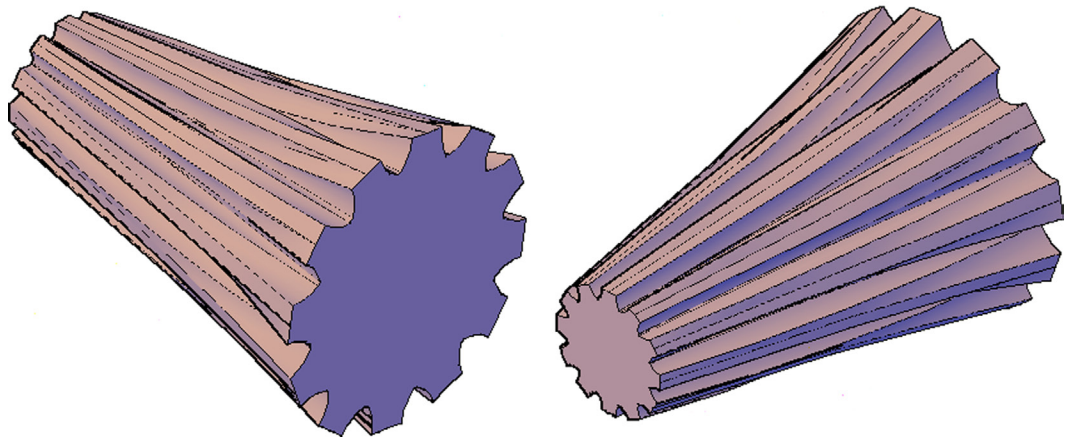

FIGURE 24.33
Step 5. Finally, you are ready to execute loft. Figure 24.33 shows the result.